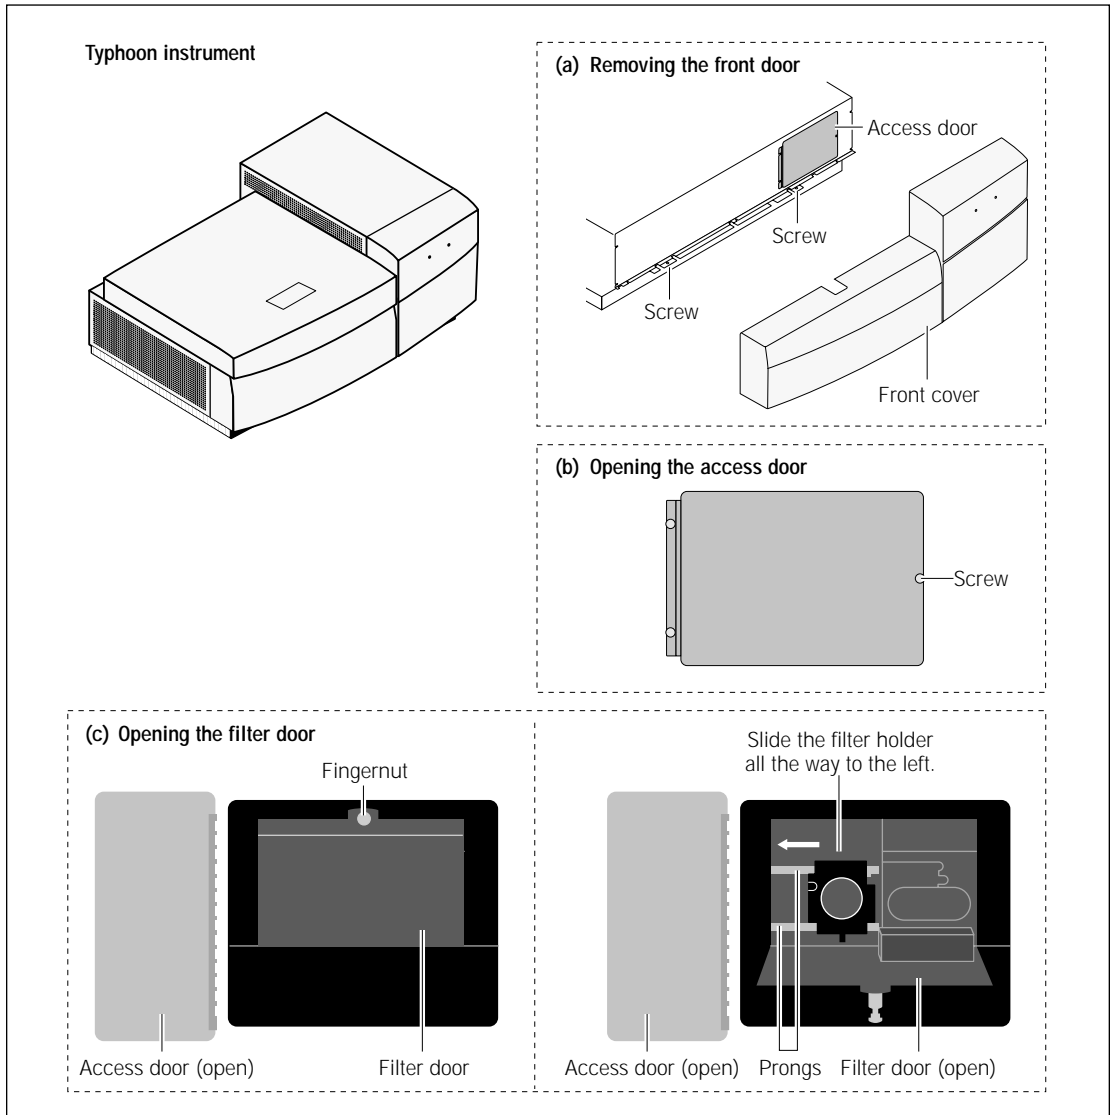

Figure 13-6. Removing the front cover and opening the access and filter doors.
2. Use a 9/64-inch hex wrench to loosen the two socket-head screws on the bottom of the front panel (figure 13-6). Turn the screws several times, but do not remove them. Pull off the front cover.
5. Align the holes in the filter holder with the prongs on the filter changer (figure 13-6).
Use the following procedure and figure 13-6 to close the access doors and replace the front cover.